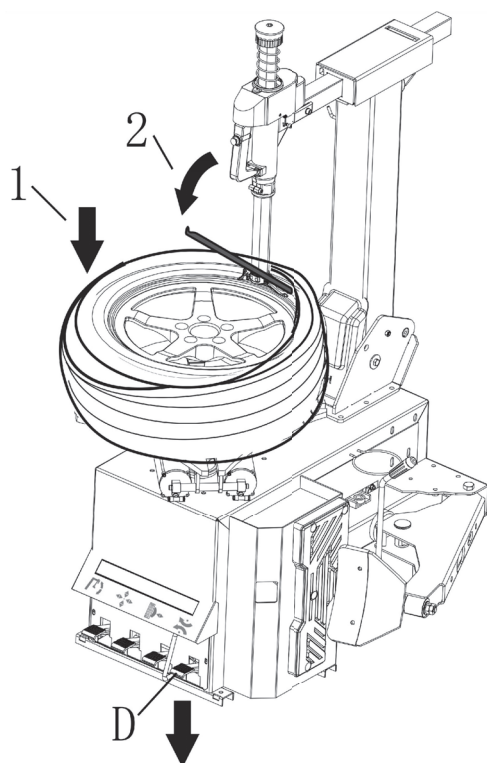
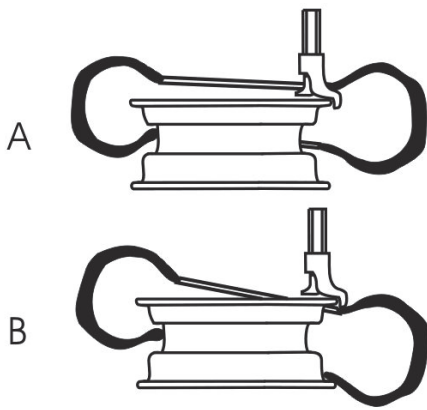
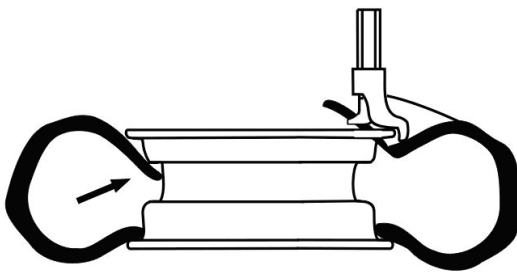

Fig.22
Fig.28
Fig.29
- Insert lever into wheel near mounting head (Fig. 22).
- Press pedal D (Fig. 22), turntable turn clockwise, until edge of wheel fall off.
- *If the demounting process is prevented, stop the turntable from turning around, lift pedal D (fig. 22), let the turntable turn anti-clockwise.*
- Press down the central part of the tire. Depress the pedal D (Fig.22) to turn the turntable clockwise, making the lower tire bead fall into the rim groove completely (as fig.28-A).
- To install the upper tire bead, place the tire well and readjust position of the tire bead (same as mount of the lower tire bead in Fig.28-B. Press down the tire opposite to the mount/demount head to the rim groove (Fig.29).
- Depress the pedal D (Fig.22) to turn the turntable while keeping pressing on the tire. When only 10~15cm is left, slow down to avoid damage of the tire bead. Stop the motor if there is any indication for damage. Lift the pedal D and turn the turntable counter-clockwise. Try again when the tire is back to the original shape.